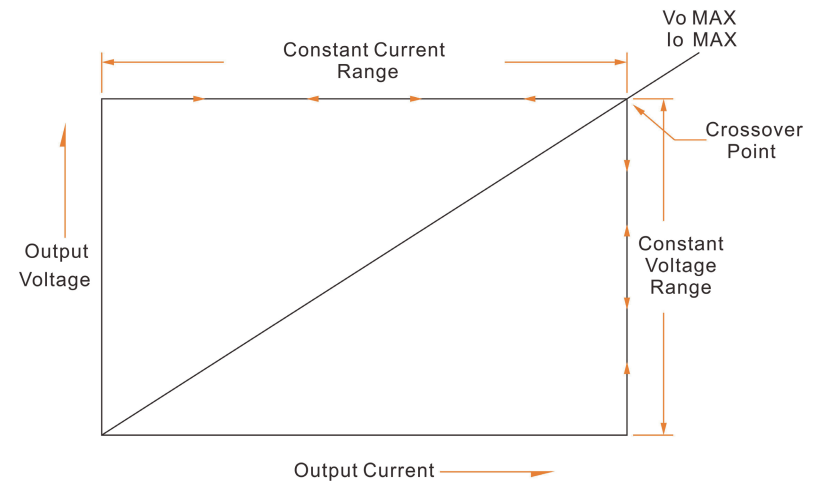

Fig.2-1
The DC power supply is to supply voltage and current in constant voltage (CV) or constant current (CC) mode within the rated output range. The working characteristics of these series Power Supplies is called a constant voltage/constant current automatic cross-over type. This permits continuous transition from constant current to constant voltage modes in response to the load change. The intersection of constant voltage and constant current modes is called the crossover point. Fig. 2-1 shows the relationship between this crossover point and the load.
A power supply with CV and CC operation mode can be operated in only one mode according to load situation. The output characteristics are shown as Fig. 2-1. According to Fig.2-1, the power supply is in CV mode when the actual load is over the preset load capacity; and the power supply is in CC mode when the actual load is below the preset load capacity.